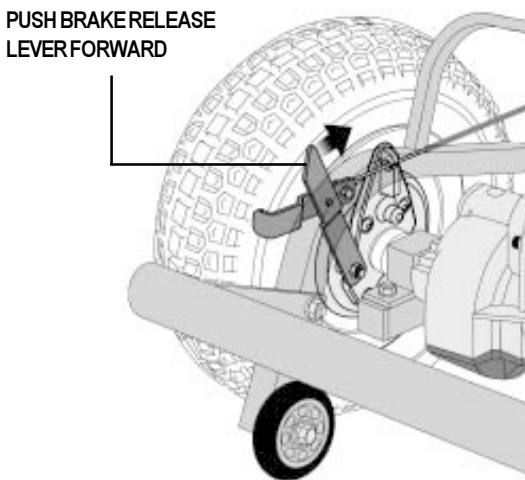
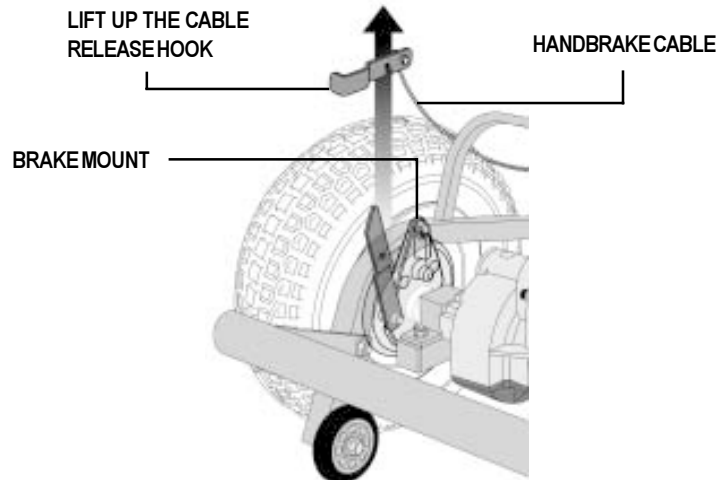

Figure 21. Disengage Handbrake
Figure 21a. Disengage Handbrake
8. If your Scooter is equipped with a handbrake, disconnect the handbrake cable from the rear hub by pushing forward and holding the brake release lever with your thumb. See figure 21. Lift the cable release hook free of the peg and slide the handbrake cable free of its slot on the brake mount. See figure 21a. Move the cable safely out of the way.